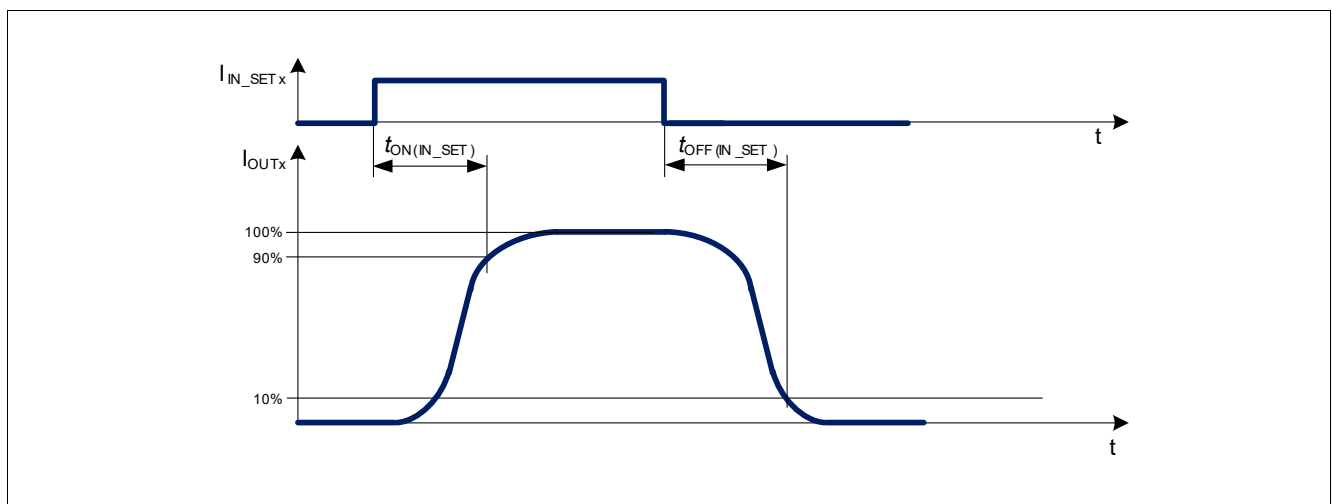
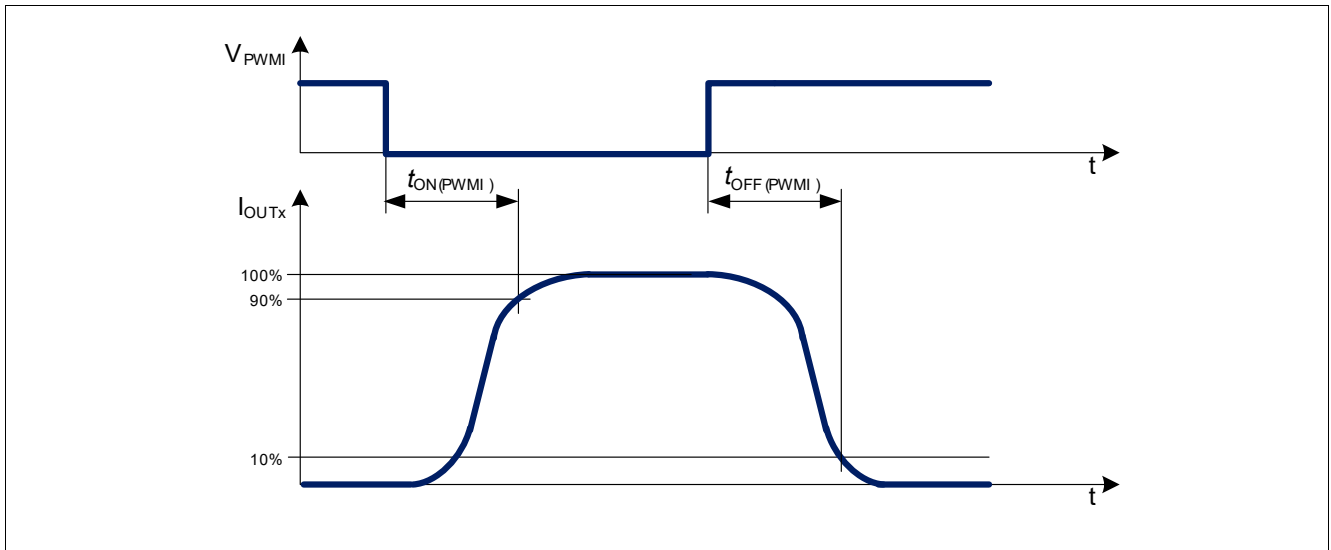

Figure 10 IN_SET turn on and turn off delay timing diagram
Figure 11 PWM turn on and turn off timing diagram
In the following diagrams (Figure 10, Figure 11) the influences of different driving inputs on output activation delays are shown.
- 2) Refer to Figure 10.
- 3) Refer to Figure 11.